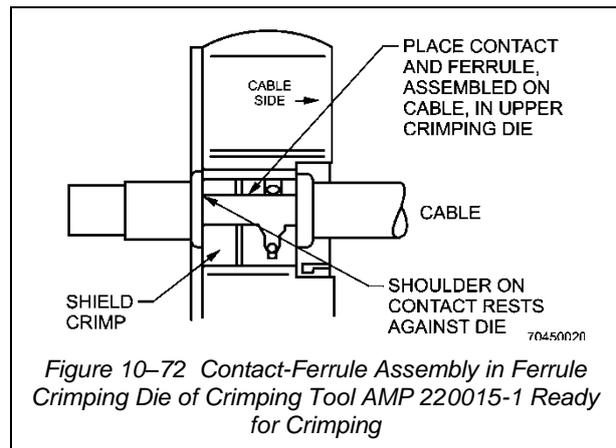

Figure 10-72 Contact-Ferrule Assembly in Ferrule Crimping Die of Crimping Tool AMP 220015-1 Ready for Crimping
- (3) Position ferrule over braid and against shoulder on contact.
- (4) Place the contact-ferrule assembly in the appropriate crimping die (from Table 10-27) of the tool, with the shoulder of the contact against the tool jaw. (See Figure 10-72 and 10-73)
- (5) Close tool handles until ratchet releases to form braid crimp.